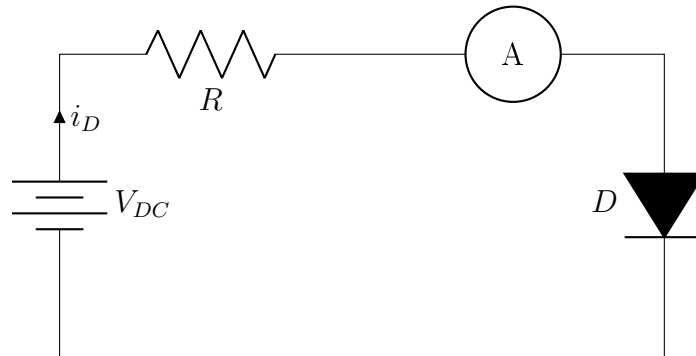

Figure 2: PN-Junction Diode Test Circuit
2. The minimum output voltage by the Power Supply Module is 0.6V. To provide a low enough voltage to see the diode turn on, a voltage divider circuit is needed. Build the circuit shown in Figure 2 using the UCTRONICS U6225 Power Supply Module and the AstroAI AM33D Digital Multimeter as an Ammeter (measure with the 2000 μ A setting) with $R_1 = 680\Omega$, $R_2 = 100\Omega$, and $R_3 = 1000\Omega$.
1. Define all parameters and variables in Equation (2).
2. Plot the $I_D(V_{PN})$ characteristics obtained on a log-linear plot. Note that the term ‘log-linear’ is used to describe a semi-log plot with a logarithmic scale on the y-axis and a linear scale on the x-axis. The y-axis label should read ‘1N4148 Diode Current, I_D (A)’ and the x-axis label should read ‘Diode Voltage, V_{PN} (V).’ Make sure to have enough data points to generate a smooth curve. Use the measured value of V_{PN} (from your V_{PN} vs V plot) across the diode in this plot, i.e., do not assume that the voltages supplied by the power supply are those across the diode.
5. Comment on the values of I_S and γ that yield the best fit to the data. How do your experimental and varied values compare with those given in the diode manufacturer data sheets? (For R_s use Figure 2, curve 2, on the Vishay datasheet. I_S can be found under reverse current, and γ should be about 2.3.)